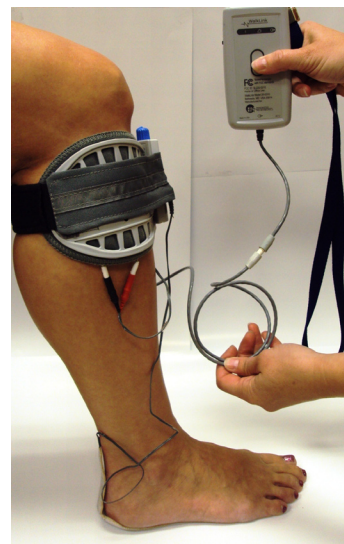

Figure 31: WalkLink cable connects WalkLink and WalkAide during data collection
- Connect WalkLink and WalkAide control unit using a WalkLink cable (Figure 31).